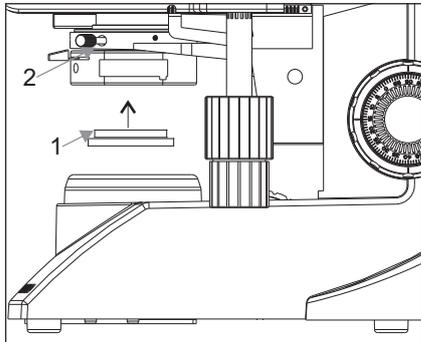

Fig. 18
- Fit the filter (1) into the bottom of the condenser (2) until it clicks into (Figure 18).
### Focusing Procedure (Figure 18)